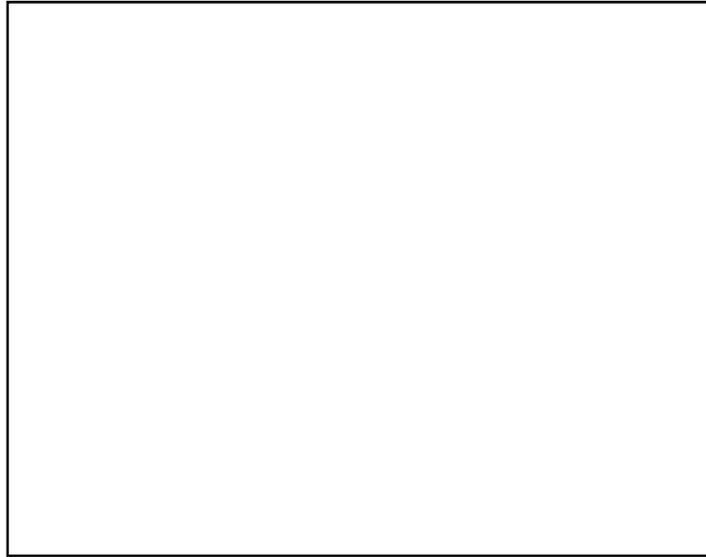

Figure 071-329-1019-2. Basic symbols
b. Unit symbol (figure 071-329-1019-3).